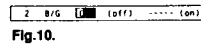

Fig. 10.
- b Select the second element of the number with  $\Delta$ + /  $\nabla$ - or the number buttons. The selected number appears. (See Fig. 10.)